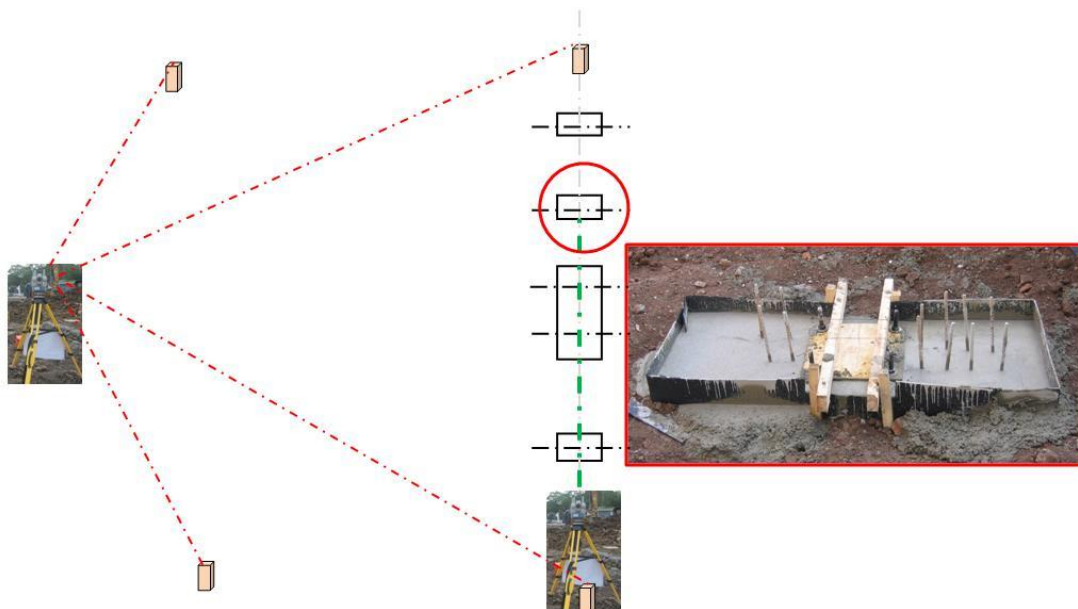

Figure 5: Hanging by Line and Distance Method
4. The joiners will now be able to pull a string line between nails and set the position of the bolts using the calculated distance. The joiners will either tie the template down to the reinforcement cage or alternatively hang by erecting a frame as shown in the image in figure 5.